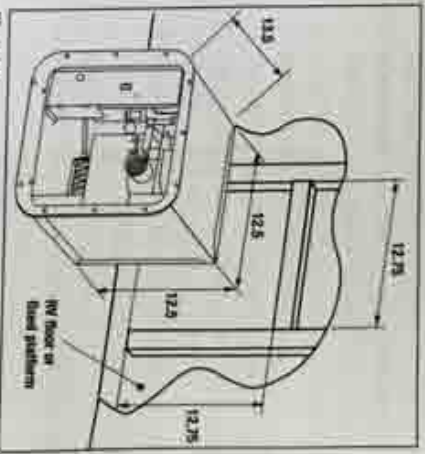

Figure 1
- DO NOT lift the water heater or carry it by holding the blower assembly support bracket/exhaust tube (Figure 1).
Make sure that the front edge of the opening is surrounded by a solid frame to firmly anchor the water heater. If needed, build an appropriate frame using 2" X 2" elements (Figure 1)
- Lifting or moving the water heater using the Blower Assembly Support Bracket/Exhaust Tube (Figure 1) may result in improper alignment of the vent and/or improper alignment of the Sail Switch.